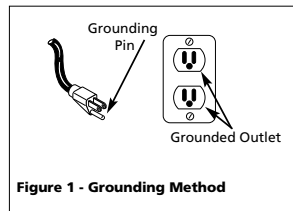

Figure 1 - Grounding Method
1. This product is for use on a nominal 120 volt circuit and has a grounding plug that looks like the plug illustrated in Fig. 1. Make sure the product is connected to an outlet having the same configuration as the plug. This product must be grounded. In the event of an electrical short circuit, grounding reduces risk of electrical shock by providing an escape wire for electric current. This product is equipped with a cord having a grounding wire with an appropriate grounding plug. Plug must be plugged into an outlet that is properly installed and grounded in accordance with all local codes and ordinances.